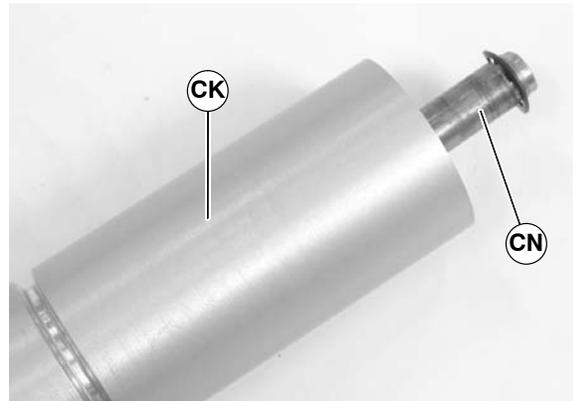

Figure 64
6. Slide the shaft assembly (CN of Figure 64) out of the pulley (CK).
- Slide the shaft assembly (CN of Figure 64) out of the pulley (CW).